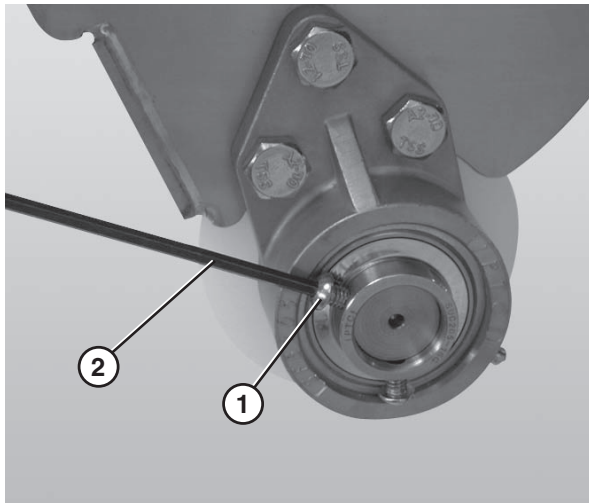

Figure 65
6. Remove the bearing cover and loosen the 3 hole flange (**Figure 65, item 1**) with bearing fasteners using a hex wrench (**Figure 65, item 2**).